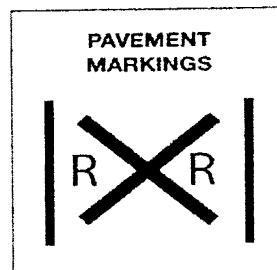

Figure 2.16
**Pavement Markings.** Pavement markings mean the same as the advance warning sign. They consist of an "X" with the letters "RR" and a no-passing marking on two-lane roads. *See Figure 2.16.*